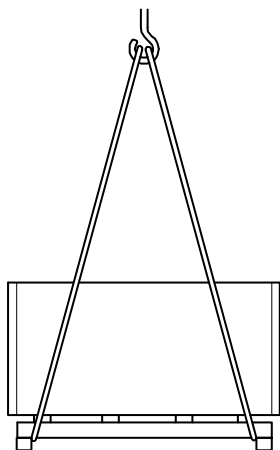

Fig. 5 Transporting with the crane
1. Attach ropes, straps, or multi-point suspensions to the pallet as shown in Fig. 5 and ensure that they cannot slip.